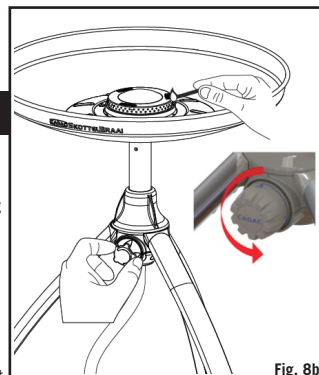

Fig. 8b
- To light the appliance, light a match or barbecue lighter. Open up the control valve slightly (K) as described under 'General' and light the appliance burner (G). When starting cold, the appliance may be lit from the top (See Fig.8b) prior to fitting the desired cooking surface onto the burner pan (F).